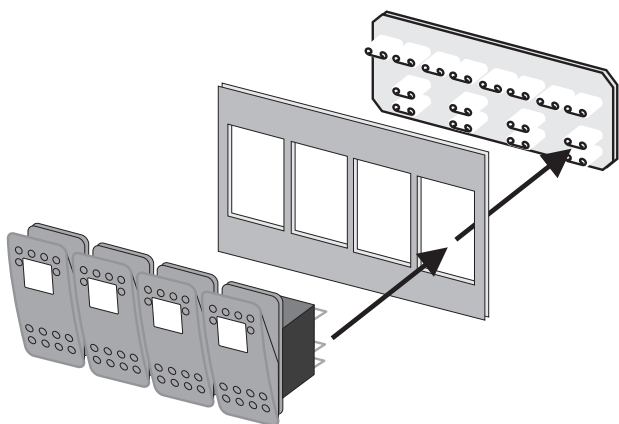

Figure 5: Mounting the switches
2. Press the switch lips firmly into the sockets, see figure 5.